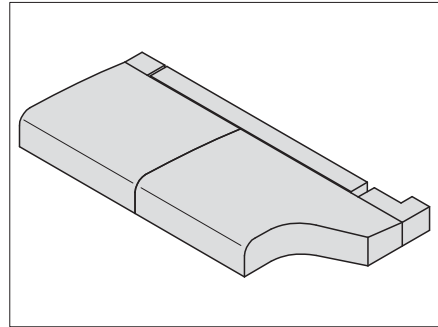
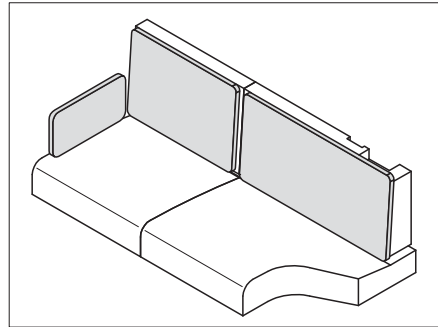

Fig. 185 Positioning seat cushions
Fig. 187 Cushion for back cushions
- Lay on the seat, backrest and additional cushions as shown in Fig. 185 to Fig. 187.